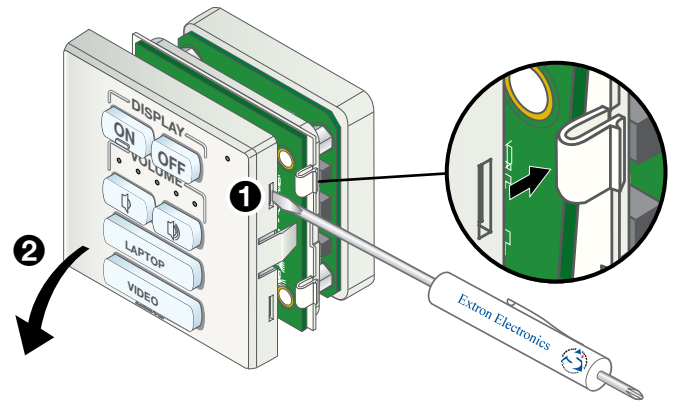

Figure 6. Releasing the Button Plate
1. Insert a small flat-bladed screw driver into one of the slots (see figure 6, ❶). There are two slots on each side.
4. Tilt the top of the bezel forward so the buttons do not fall out as you remove it (❷).